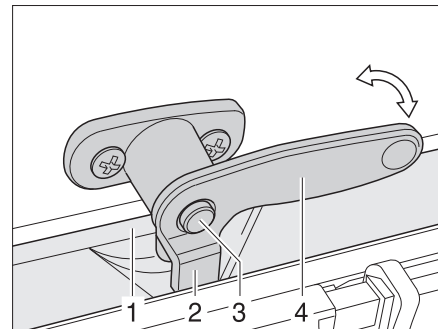

Fig. 71 Catch lever with safety knob in "closed" position
- If it exists, press the safety knob (Fig. 71,3) down and hold it.